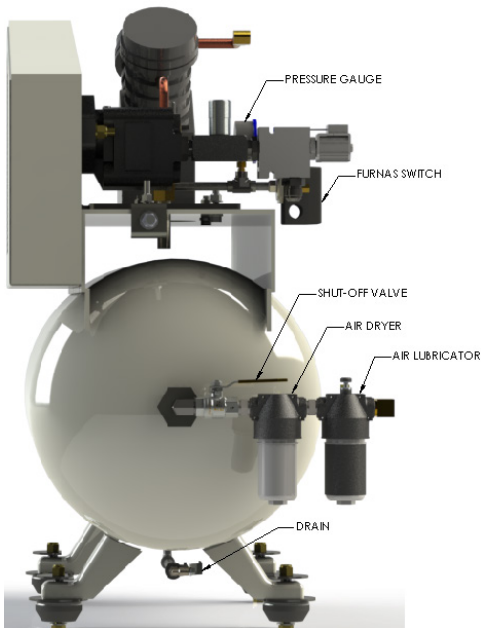

Fig. 1. Air Compressor Assembly
1. Verify that all water has been drained out of the air compressor. Water will displace the lubricating oil in the pump motor. Drain any water out of the air compressor and air dryer daily. (Fig. 1)